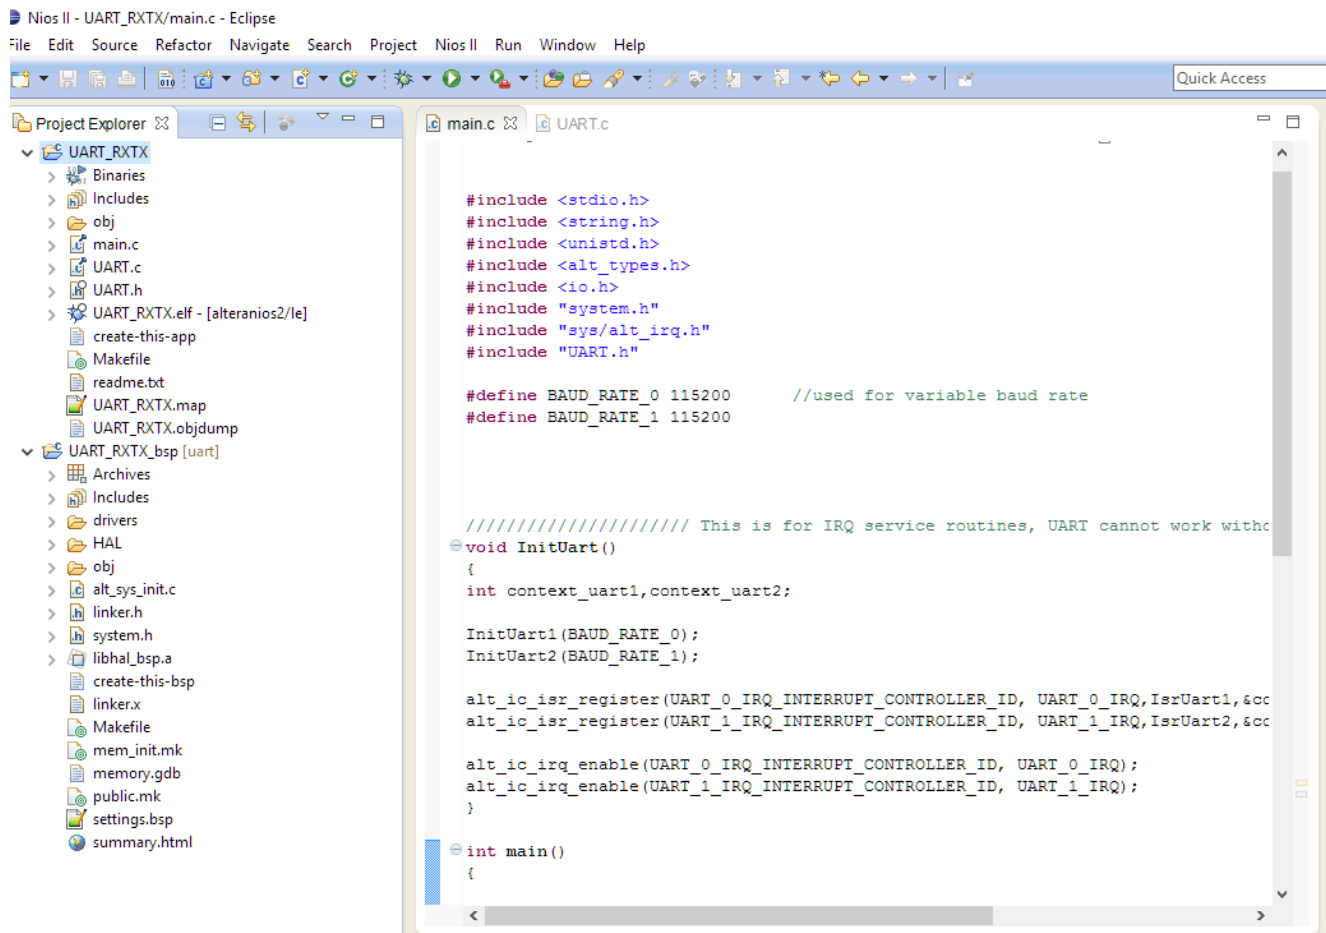

Figure 4: Project Explorer window
8. You should see the “UART_RXTX” and “UART_RXTX_bsp” directory in “Project Explorer” as shown in Figure 4. The environment is now ready for modification.